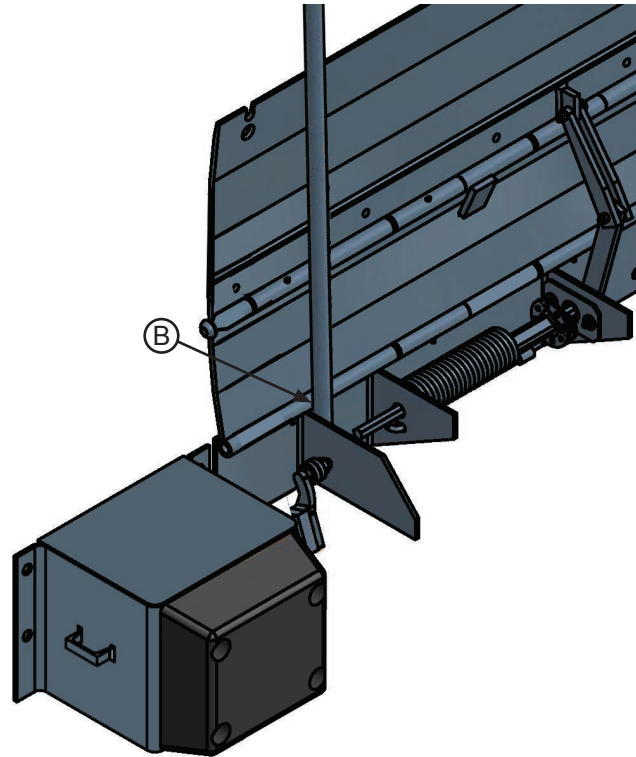

Figure 17
Put handle (A) into maintenance prop position (B) by pulling handle out of roller arm assembly and placing into maintenance prop receiver (B). See Figure 17.